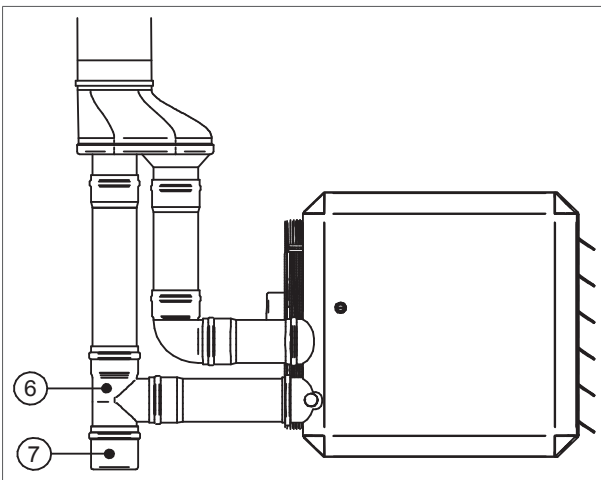

Figure 16 - A T-piece (6) and condensate trap (7)
- Add a T-piece (figure 16).
- Place a condensate trap (figure 16).